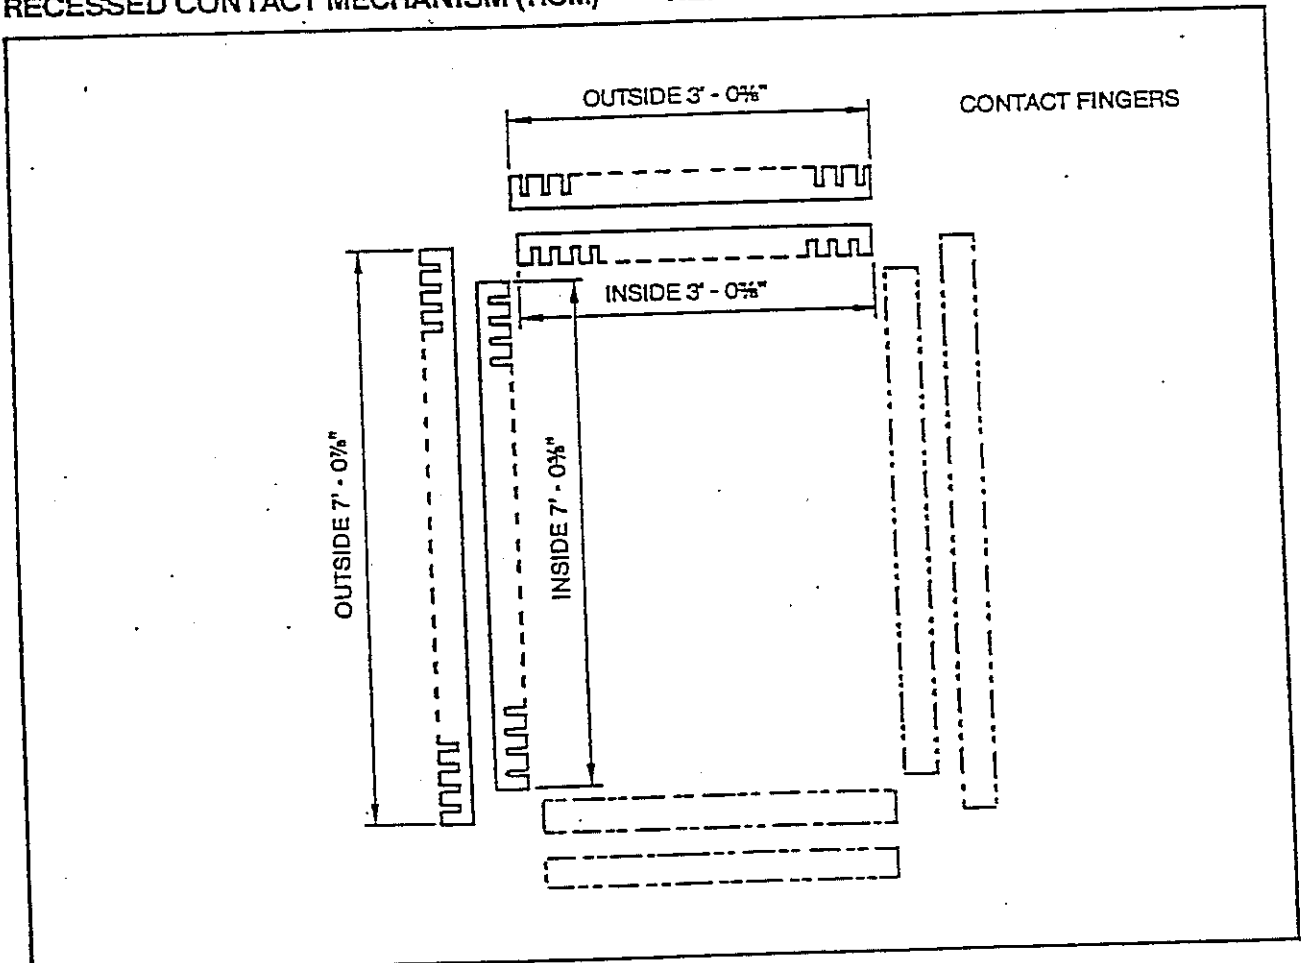

FIGURE 5. FINGERSTOCK SIZE LAYOUT
- 4) Cut exact lengths of fingerstock for each of the four sides of the frame. (A standard 3'x 7' door will require the following lengths of fingerstock 3'-0³/₈" (4), 7'-0⁷/₈" (2), 7'-0⁷/₈" (2).)
- 6) Starting in upper lefthand corner, install first row of fingerstock by hand, down the entire side of the frame (see Fig. 5).